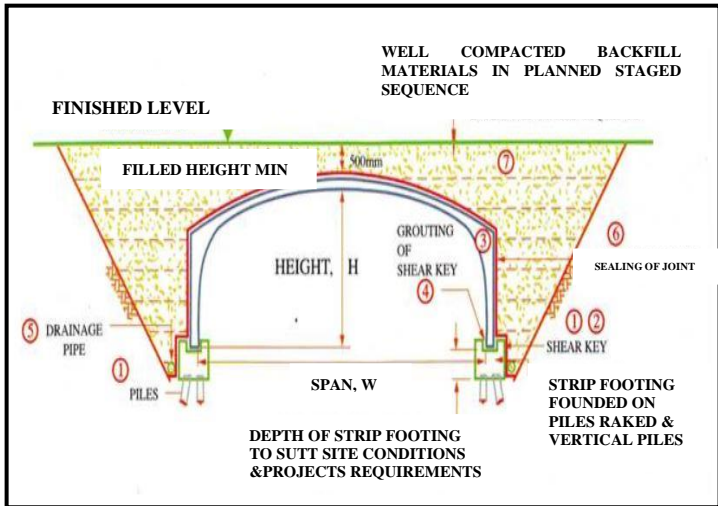

Figure 28-10: Typical Design of Arch Culvert
- c. Arch culverts (5 to 10 ft.)- A typical design is shown in Figure 28.10, and recommended dimensions are given in Table 28.3.
(see Figure 28.10)